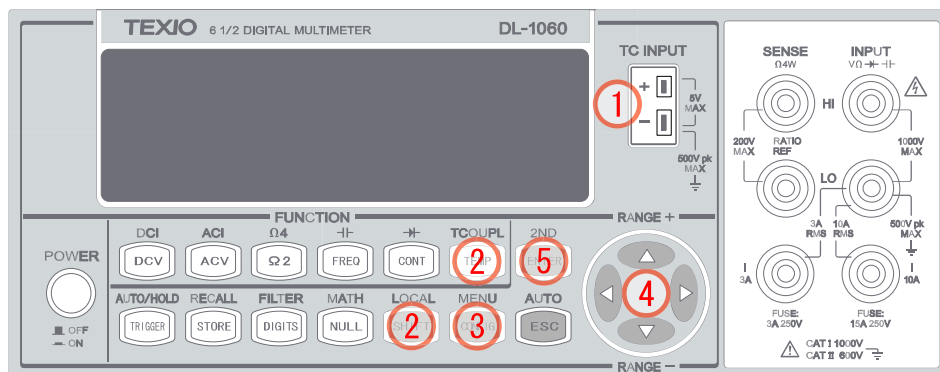

Figure 3-14
1. Select a type and matched an adaptor correctly as shown in **Figure 3-14**.